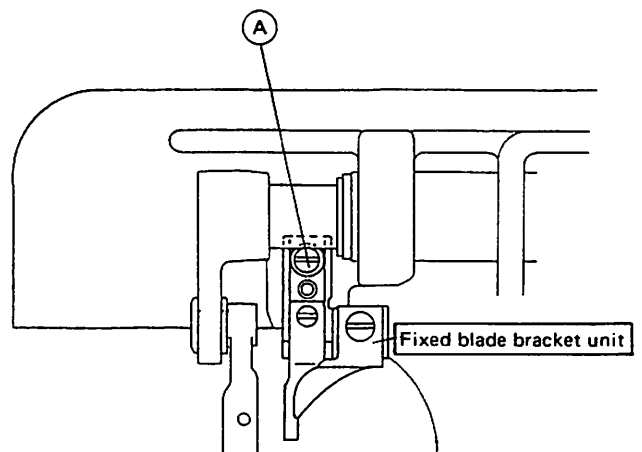

Fig. 3
- (1) As shown in Fig. 3, install the fixed blade bracket unit with the hook positioner dismounted, and then fix with the screws (A).